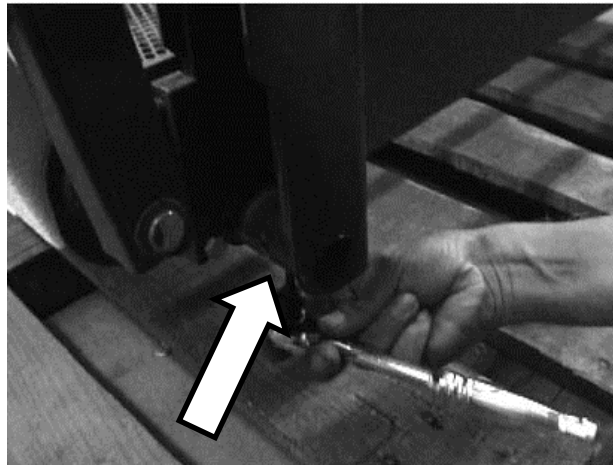

Figure 3. Set Screw 1 under Vertical Arm
2. Refer to **Figure 3**. Locate set screw under the vertical arm. Remove and retain for re-installation.
17. Raise platform approximately 6 inches above pallet. Re-install set screws located on the bottom and rear of lower vertical arm as shown in Figures 3 and 4.